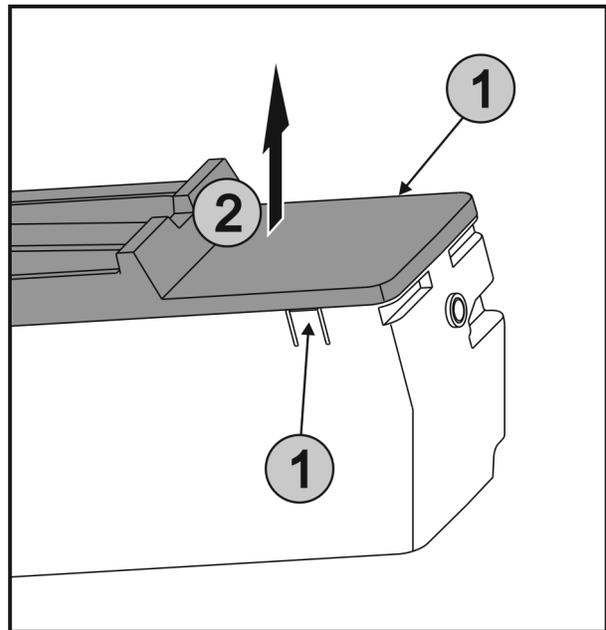

Fig. 47
- ▶ Press the lugs *Fig. 47 (1)* on both sides of the EasyTwist-Ice simultaneously and take off the cover *Fig. 47 (2)* upwards.